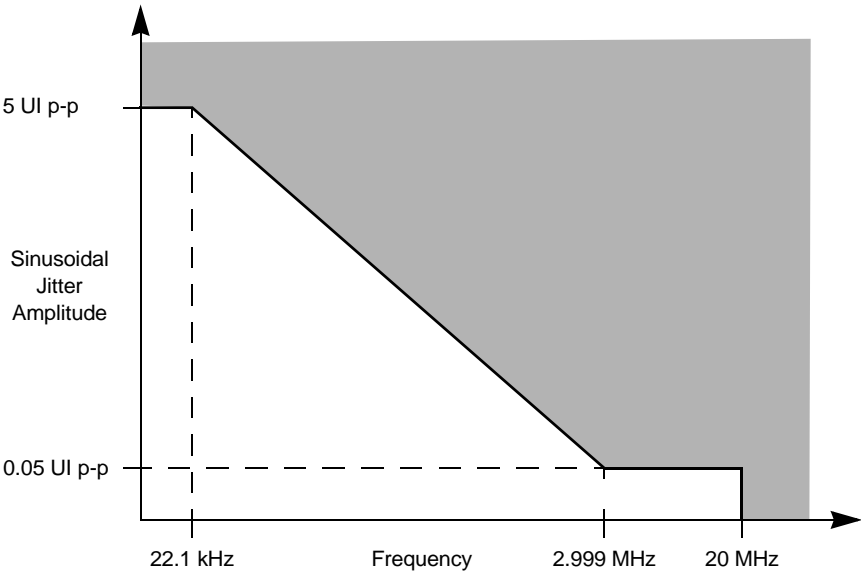

Figure 17. Single Frequency Sinusoidal Jitter Limits for Data Rate 5.0 Gbps
**Note:** The AC specifications do not include REF\_CLK jitter. The sinusoidal jitter may have any amplitude and frequency in the unshaded region in Figure 17. The ISI jitter (R\_CBHPJ) and amplitude have to be correlated, for example, by a PCB trace.
**Note:** The AC specifications do not include REF\_CLK jitter. The sinusoidal jitter in the total jitter tolerance may have any amplitude and frequency in the unshaded region of Figure 17. The ISI jitter (R\_CBHPJ) and amplitude have to be correlated, for example, by a PC trace.